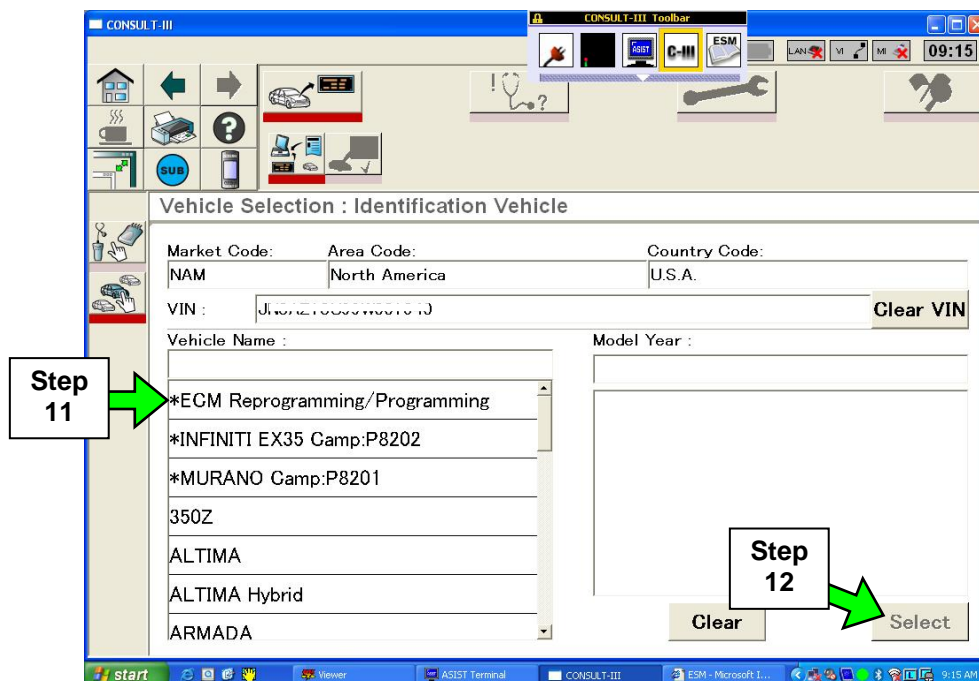

Figure 2
11. Select **ECM reprogramming / Programming** (see Figure 2).
12. Select **Select** (see Figure 2).